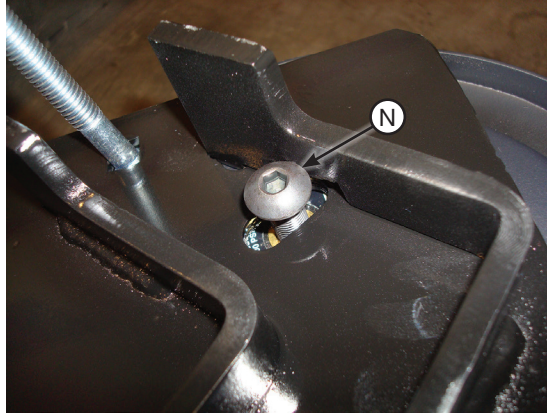

fig. C.9
5. Insert one 3/8"-24 x 3/4" (N) button-head cap screw into one of the slots in the lower bracket and just start to thread it into the lower end cap (Fig. C.9). The leg of the lower bracket has a cutout in it for the head of the screw to fit into. Lift up the lower bracket to create a gap between it and the air spring end cap and position the head of the screw under the leg of the bracket. Insert another screw into the remaining slot, position it under the leg of the bracket like the other one and by using a 7/32" hex-head wrench, tighten both evenly until the lower bracket is tight to the air spring (C.10). Torque both to no more than 20 lb.-ft. (27Nm).